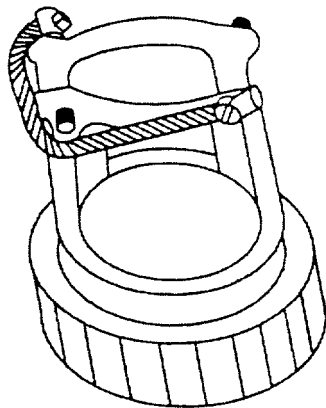

Figure 20. Strain Relief Safety Cable Installation.
42. **Strain Relief Components.** The screws, which secure saddle clamps and other strain relief components, shall be secured with safety cable by installing the safety cable between the heads of two screws (Figure 20).
If safety cable on a strain relief wraps across metal corners as shown in Figure 20, and the application is for high vibration areas, it is a recommended practice to install protective tubing over the safety cable.